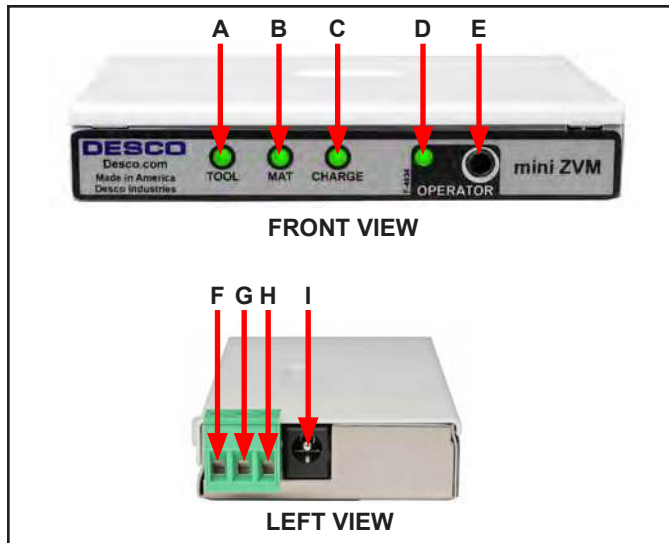

Figure 2. Mini Zero Volt Monitor features and components
4. Plug the wrist cord into the monitored jack labeled OPERATOR (see Figure 2). The corresponding operator LED will switch from blinking red to solid green. This indicates that the operator is properly grounded.